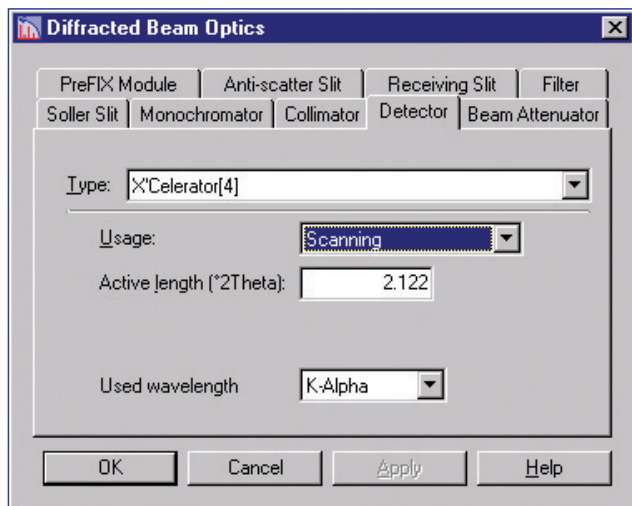

Figure 31. Configuration of the detector for 'Scanning mode'.
10. Click on the 'Detector' tab, set the detector to 'Scanning mode' in the 'Usage' field, and increase the 'Active Length' to ~3 (Figure 31) . After clicking in any other field to accept this value, the active length will reset to ~2.122, depending on radius of the diffractometer. See 'Modes of Operation' (below) for more information.
- **Scanning mode** (depicted in Figure 31) is the standard configuration for collecting data over an angular 2θ range. When all parallel detectors are used, the active length is slightly larger than $2^\circ 2\theta$ on a system with a radius of 240 mm. It is possible to reduce the active length of the strips and slightly increase peak resolution by modifying data collection software parameters, but this effect will only be observable when an extremely well-crystalline powder is used. That option is not normally required unless measurement starts at a very low angles (~ 1 degree 2θ). $1/8$, $1/4$ or $1/2$ deg divergence slit settings is recommended depending on the size of the sample and starting angle.
- IMPORTANT!** In addition to configuring the X'Celerator correctly within the Data Collector control panel as described above, you must explicitly specify the mode of operation for the X'Celerator within the 'settings' page of each analysis program employed (Figure 33). When creating or editing an absolute scan program, for example (e.g., in X'Pert Data Collector, 'File > New [or Open] Program'), select 'Settings', double-click on 'Detector: X'Celerator', and then input either 'scanning mode' or 'receiving slit mode' as appropriate. When the mode parameter is set to 'Actual', the X'Celerator will default to the 'Receiving Slit Mode'. When specifying 'Scanning Mode', set the active length to the maximum value of 2.122 as shown in Figure 31. It is best to not leave the Detector specified as "Actual" for "X'Celerator" and "PIXcel". These detectors should be specified explicitly in order for the correct step size and total measurement times to be calculated correctly.